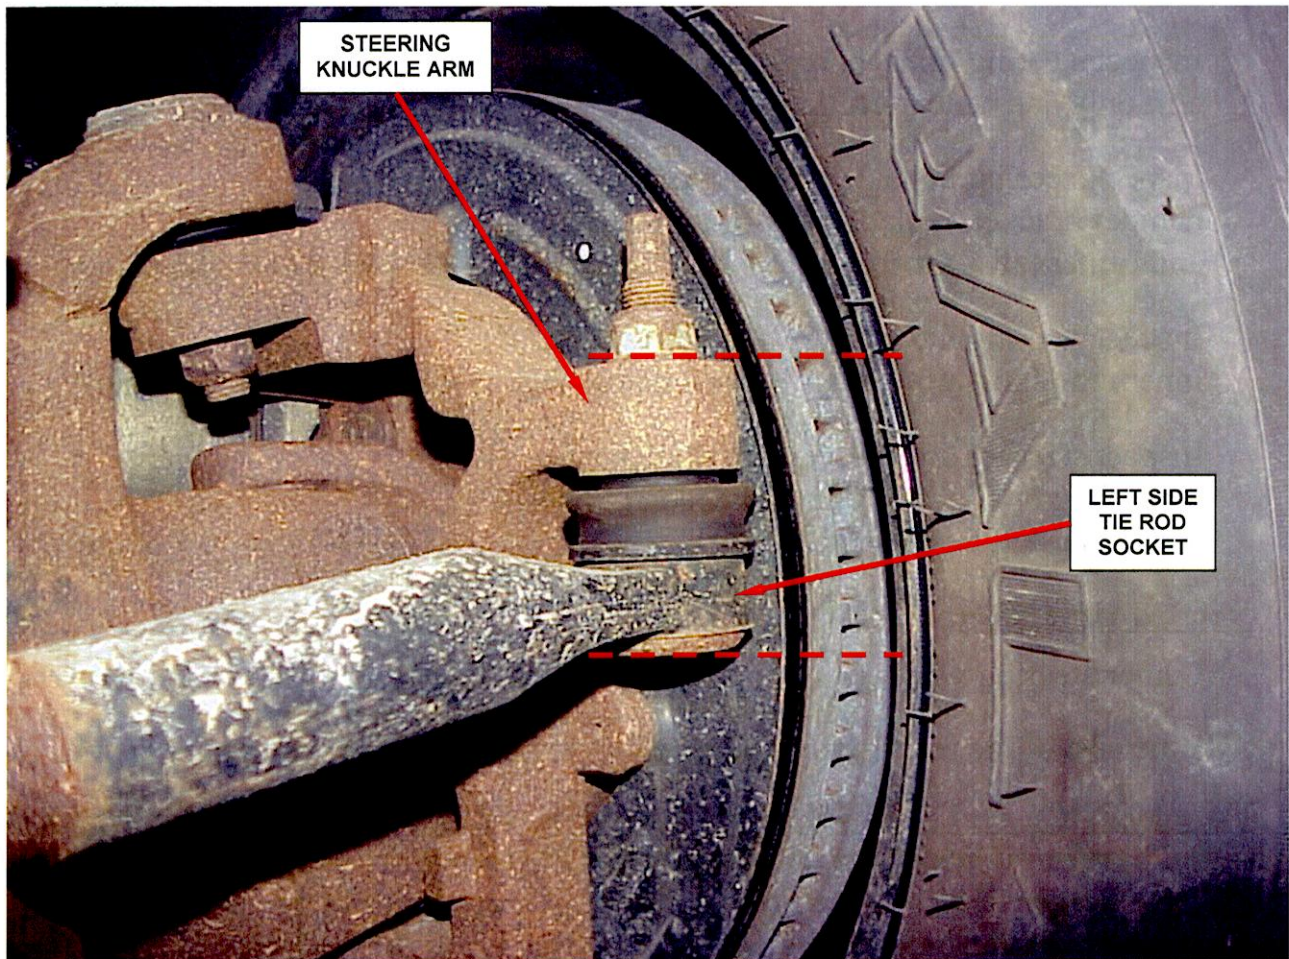

Figure 16 – Align Left Tie Rod Socket Parallel to Left Steering Knuckle
- b. Rotate the left tie rod until the bottom of the tie rod socket is parallel to the top of the left steering knuckle arm (Figure 16).